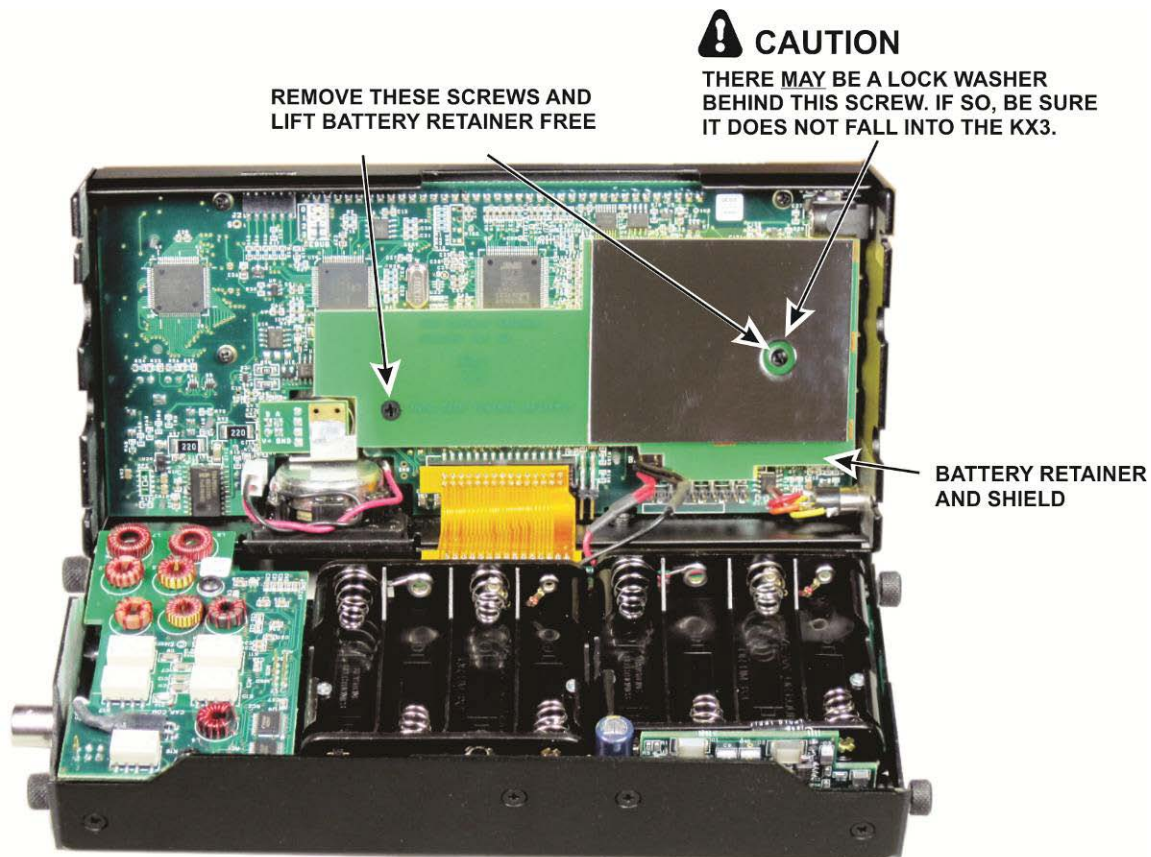

Figure 1. Removing the Battery Retainer.
- Taking ESD precautions, remove the KXBC3 module from its ESD-safe envelope and mount the nylon standoff as shown in Figure 1.